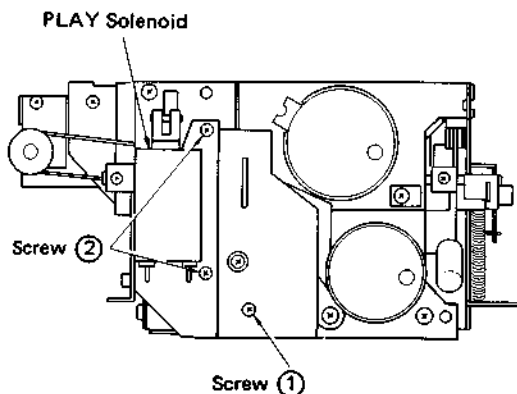

Fig. 5
- 1) Remove the mechanism assembly as described in procedure in 1 above. Undo screws ① shown in Fig. 5, and then remove the Inter connect P.C. Board.
- 2) To remove the play solenoid, undo 2 screws ② shown in Fig. 5.